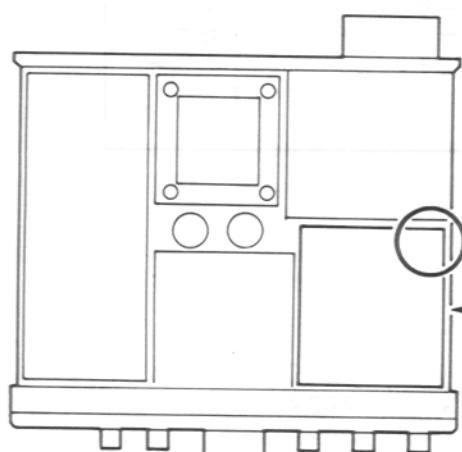

Figure 1
1. On the component side of the RF Unit, install a $1\mu F$, 50WV electrolytic capacitor, as shown in Figures 1 and 2. The positive lead of the capacitor is soldered to the lead of R1045, and the negative lead to the TEST PIN (G1).